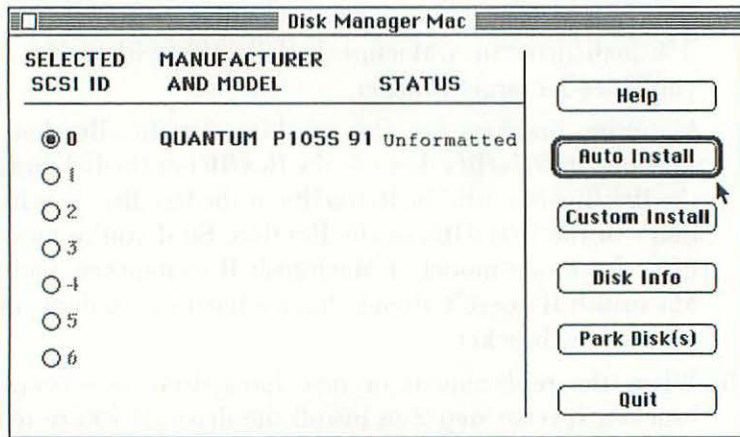

Figure 9-15 Disk Manager Mac Version 2.24.
3. Figure 9-15 shows Disk Manager Mac version 2.24. SCSI ID = 0 is preselected, because it's the only drive connected to the computer. Note that the status of the new drive is unformatted. To format the drive, click the Auto-Install button.